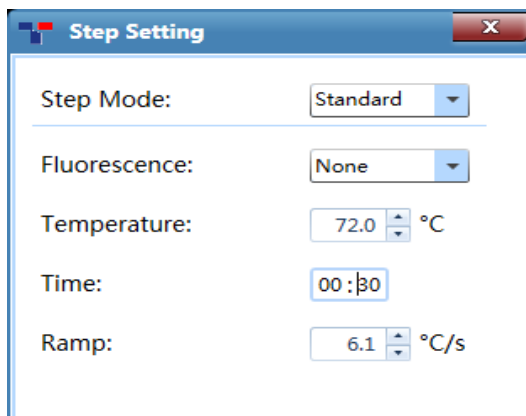

Figure D-5.6a Step Setting dialog box – Standard step mode
5. **Step Setting**: double click any step in the step list or in temperature program area to edit the selected step, the application software will pop up the **Step Setting** dialog box for user to edit the selected step, as shown in figure D-5.6a.
- I. **Standard Step Mode:** user can set the *Temperature, Time, Ramp* for the standard step and decide whether to read its *Fluorescence*, as shown in figure D-5.6a.